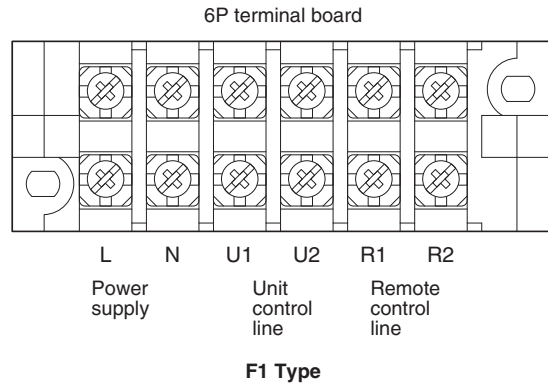

Fig. 4-2
- (1) Refer to Section 4-2. "Recommended Wire Length and Wire Diameter for Power Supply System" for the explanation of "B", "C", "D" and "E" in the above diagram.
- (2) The basic connection diagram of the indoor unit shows the terminal boards, so the terminal boards in your equipment may differ from the diagram. (Fig. 4-2)
- (3) Refrigerant Circuit (R.C.) address should be set before turning the power on.
- (4) Regarding R.C. address setting, refer to the installation instructions supplied with the remote controller unit (Optional). Auto address setting can be executed by remote controller automatically. Refer to the installation instructions supplied with the remote controller unit (optional).